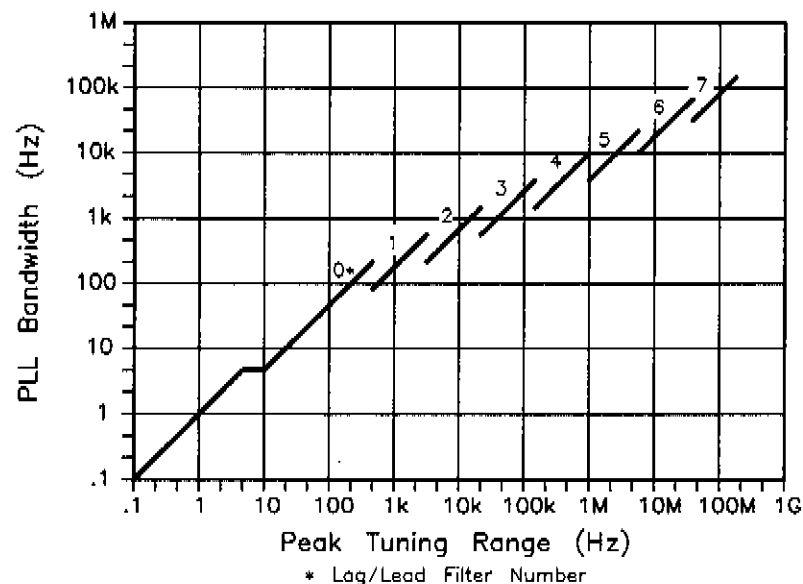

Figure 8-3. Phase Lock Loop Bandwidth as a Function of the Peak Tuning Range of the Measurement.
Action: There are several possible conditions that can prevent the test system from being able to close the phase lock loop. These conditions and the actions recommended for verifying them are listed below in the order of probable cause. 1. The test system is not able to tune the beatnote to within the capture range set for the measurement. This possibility is minimized by carefully following the Checking the Beatnote procedure in each measurement example in chapter 3 of the Operating Manual. If an oscilloscope is available, you will find that connecting the scope to the AUX MONITOR port on the HP 11848A allows you to continuously monitor the beatnote throughout the measurement. By aborting this measurement and reinitiating a New Measurement, you can observe the beatnote as the HP 3048A attempts to close the phase lock loop (a message will appear on the display to let you know when this is happening). The beatnote frequency, as seen on the scope, should decrease and then go to zero (dc). Watching the beatnote's response as the test system attempts to adjust it to 0 Hz can provide clues about tuning problems that may exist. 2. The beatnote drifted beyond the HP 3048A's capture range before the test system was able to acquire lock. For further information on verifying the frequency stability of the beatnote, refer to chapter 3, Tracking Frequency Drift in the Operating Manual. 3. The VCO Tune Constant entered for the measurement was not within a factor of 2 of the actual VCO Tune Constant, and the HP 3048A was not configured to measure the tune constant for verification. For details on verifying the VCO Tune Constant, refer to chapter 3, Estimating the Tuning Constant in the Operating Manual. 4. The Peak Tuning Range set for the measurement is > 10 MHz and is causing the loop dynamics to be non-linear. When this condition exists, the non-linear response of the beatnote as the test system attempts to close the phase lock loop can often be seen on an oscilloscope connected to the AUX MONITOR port on the HP 11848A. 5. One of the sources is being injection locked as the HP 3048A is tuning the beatnote to 0 Hz. (Refer to chapter 3, Minimizing Injection Locking in the Operating Manual for recommended actions.) 6. The modulation bandwidth of the VCO source's tuning port is not wide enough to provide adequate phase margin for the test system's phase lock loop (PLL). The VCO's modulation bandwidth (the upper frequency limit of the VCO's tuning port) should be greater than approximately ten times the PLL bandwidth set for the measurement. PLL bandwidth is shown as a function of the Peak Tuning Range (PTR) in figure 8-3. (The PTR for the measurement is determined by multiplying the VCO's Tune Constant by its Tune Range of VCO.)
- Decrease the PLL bandwidth to 1/10 the VCO's modulation bandwidth by decreasing the Peak Tuning Range (PTR) for the measurement. Use figure 8-3 to determine the PTR required. The PTR can be reduced by decreasing the Tune Range of VCO value entered. Divide the required PTR by the VCO's Tune Constant to determine the appropriate Voltage Tuning Range to enter. (Keep in mind that reducing the PTR limits the test system's Frequency Drift Tracking Range for the measurement. For further information about changing the PTR, refer to chapter 3, *Changing the PTR in the Operating Manual*.)